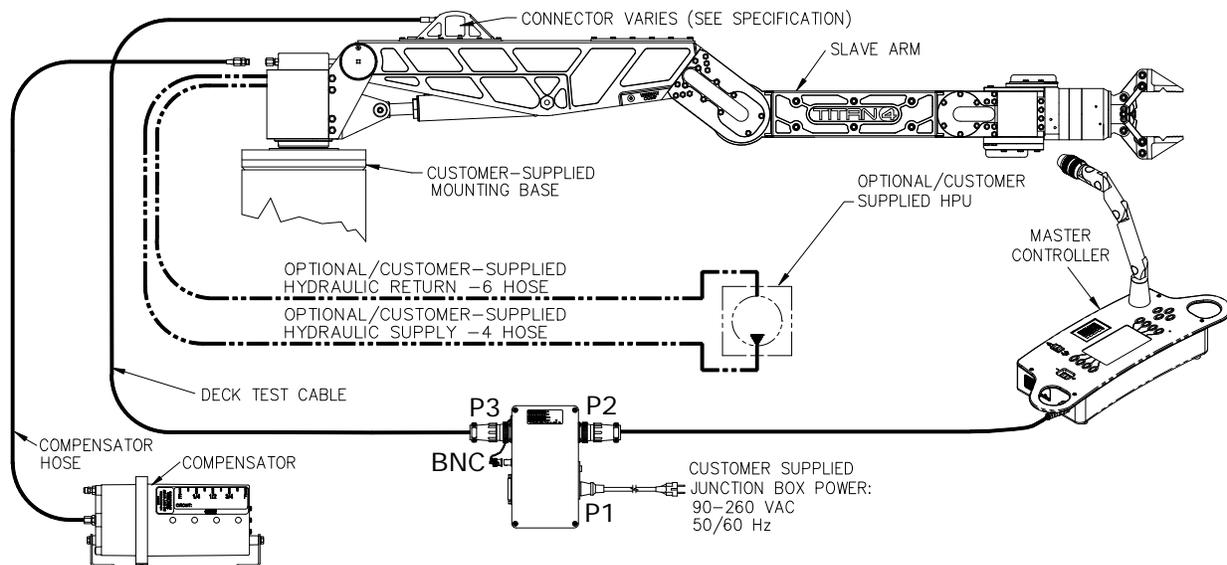

Figure 5 Typical Deck-test connections
The Titan manipulator system includes components needed for deck-testing or local operation (see Figure 5).
1. Set up the manipulator system for deck-testing (see Figure 5 and section 4.3).